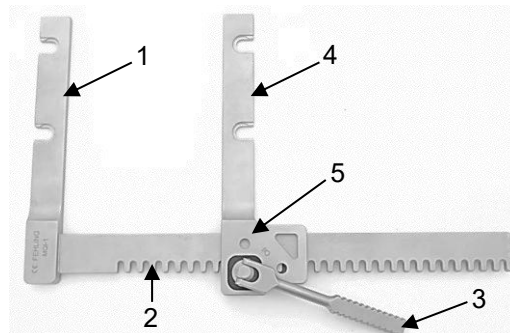

Fig. 6
Figure 6 shows the FALK sternum retractor, which is a U-shaped bar retractor with pinion. The bar retractor consists of a fixed retractor arm (1), a toothed rack (2) and a movable retractor arm (4). The proximal end of the movable retractor arm is the box (5) in which the drive lever (3) is located.